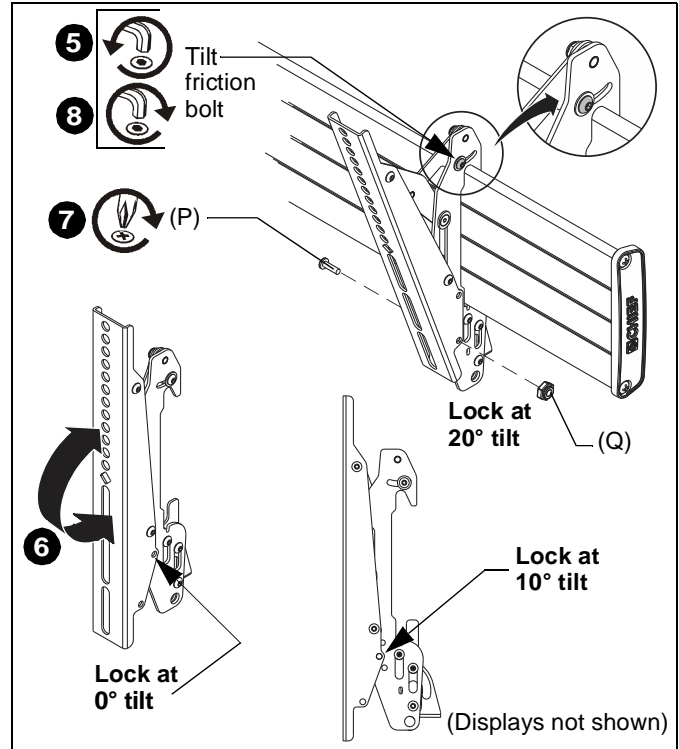

Figure 4
5. If necessary, loosen button head tilt friction bolt (located on side of interface bracket). (See Figure 4)
6. Adjust tilt as required. (See Figure 4)
7. The tilt may be locked at 0°, 10° and 20° using one 10-24 x 5/8" Phillips head screw (P) and one 10-24 lock nut (Q) per interface bracket. (See Figure 4)